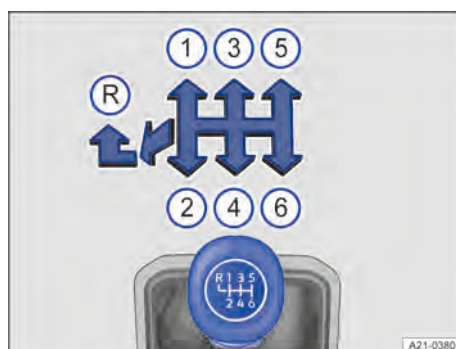

Fig. 107 Gear shift pattern of a 6-speed manual gearbox
The positions of the individual gears are shown on the gear lever → Fig. 107.
3. Press down the gear lever and push fully to the left and then forwards into the reverse gear position → Fig. 107 Ⓜ.